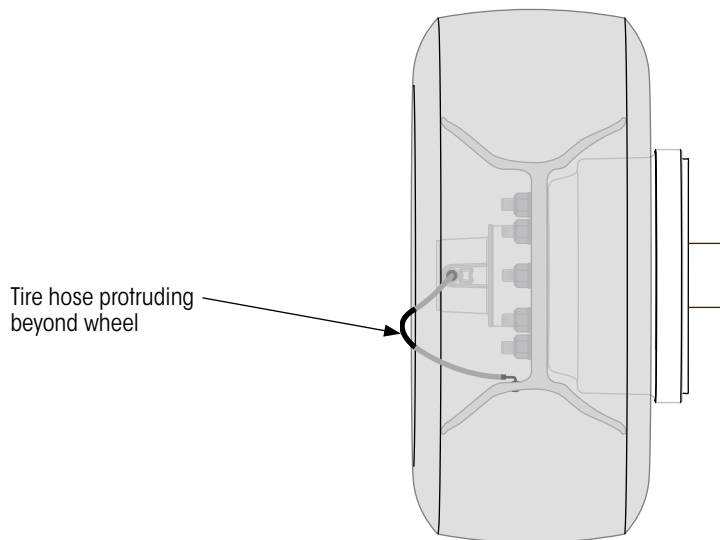
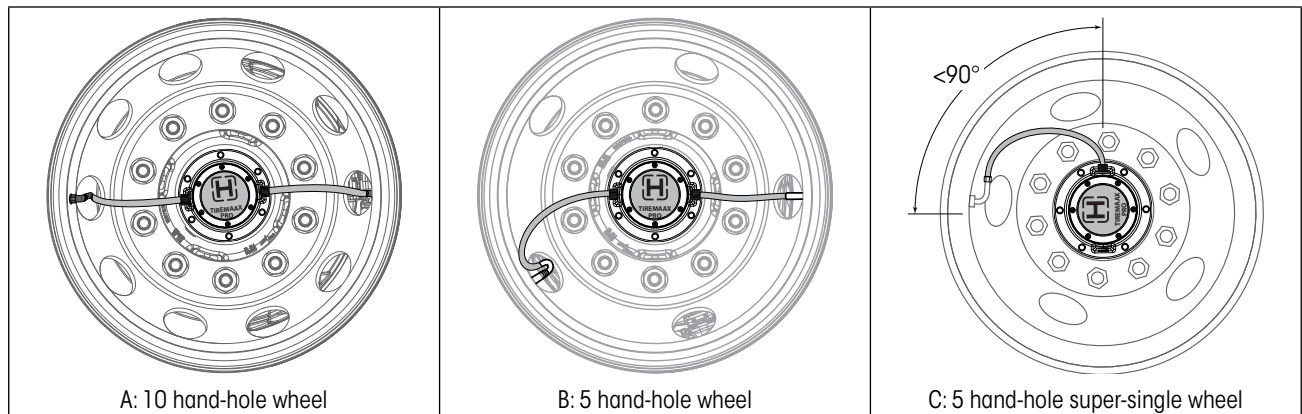
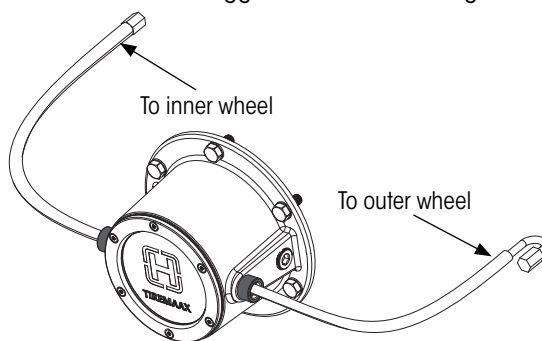
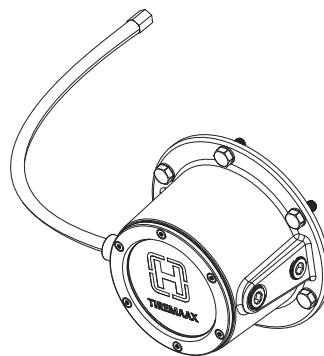

Figure 23: Improper tire hose installation (super single shown)
Figure 24: Properly clocking hubcap and wheels to prevent tire hose damage during operation
Figure 26: Dual tire hose to hubcap connection(s)
Figure 27: Super-single tire hose to hubcap connection
6. **Orient** hubcap for proper tire hose routing. **Aligning** the tire hose ports so they are **BETWEEN** two wheel mounting studs will generally provide the best tire hose routing, Figure 24 on page 21.
1. Using two lug nuts, **mount** wheel on hub with the rotation clocked for best tire hose placement (Figure 24).
NOTICE The wheel must be properly “clocked” to the hubcap to prevent the hoses from rubbing on the wheel (Figure 24) and extending beyond hubcap.
7. **Loosely connect** other end of tire hose(s) (Figure 26 for dual or Figure 27 for super-single) to the outlet port of the hubcap and check to ensure hose(s) meet criteria of Figure 23 and Figure 24.
(Refer to Figure 23 and Figure 24 on page 21 for examples):
- A. Route tire hoses inside rim area (Figure 23).
- B. To further restrain tire hoses within rim area and take up slack, "clock" wheel rotation relative to hubcap position (Figure 24).
- E. Super single wheels, view C of Figure 24 and Figure 27, require only one tire hose. Positioning the hubcap port 90° from the valve stem provides optimum fit. The unused port will remain plugged.